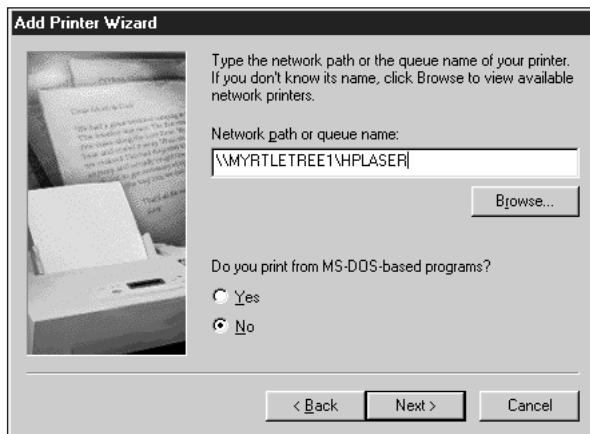

Figure 18-14 To use a network printer under Windows 9x, enter the host computer name followed by the printer name
3. In response to the question, “How is this printer attached to your computer?”, select **Network printer**. Click **Next**. The wizard window in Figure 18-14 opens.